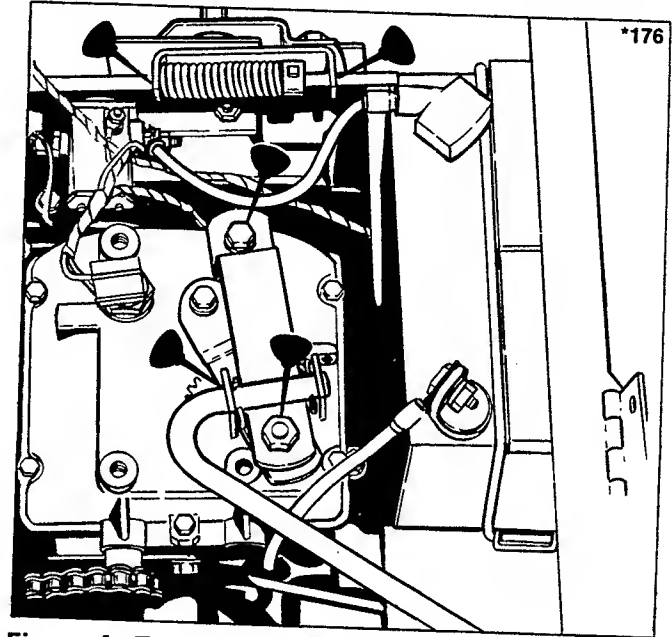

Figure 4. Transmission and PTO Rod Lubrication.
4. Lubricate the points where the gear shift linkage pivots on the transmission. Also lubricate points where PTO rod touches rod guide. See figure 4.